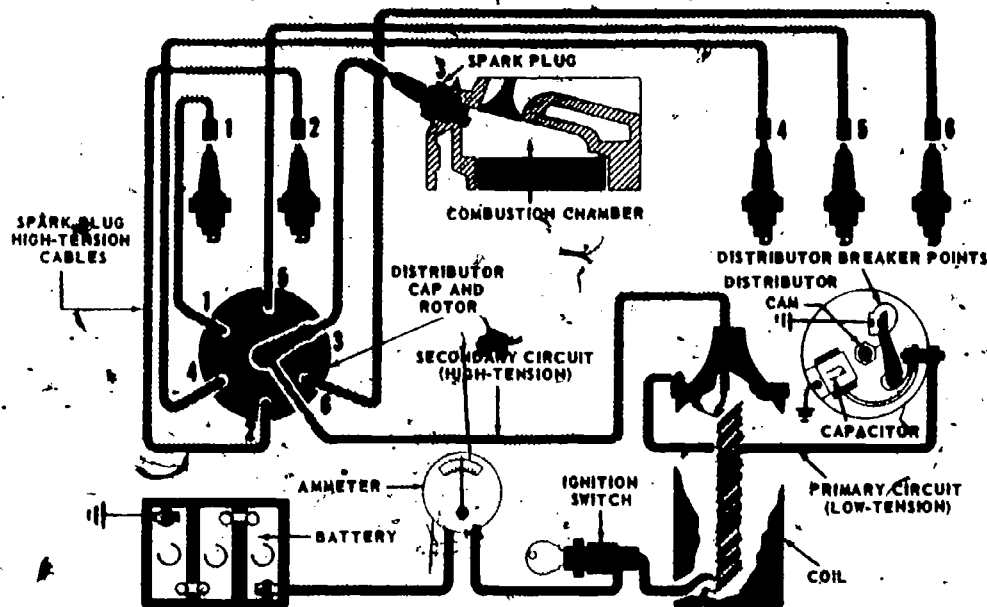

Fig 2-22. Battery ignition circuit.
(b) Battery-distributor type. The battery-distributor type ignition system consists of a primary circuit and a secondary circuit. The battery or generator/alternator delivers low voltage through the coil to the breaker points. Each time the breaker points open, a high voltage (as much as 30,000 volts) created by the coil, is induced in the secondary circuit. The primary and secondary circuits and a schematic of the wiring are illustrated in figure 2-22. The primary circuit is represented by the heavy dark line and the secondary circuit is represented by the lighter line.
4. **Distributor cap.** Figure 2-22 shows how secondary voltage enters the distributor cap through the center terminal to the rotor. The rotor in turn distributes the electrical current to the spark plug leads. Note that the spark plug leads are arranged in a standard pattern or engine firing order. This firing order insures that the spark is delivered to the right cylinder at the proper time. The firing order varies with different makes and models of engines and is generally stamped on the side of the engine block. A commonly used firing order for 6-cylinder engines is 1-5-3-6-2-4.